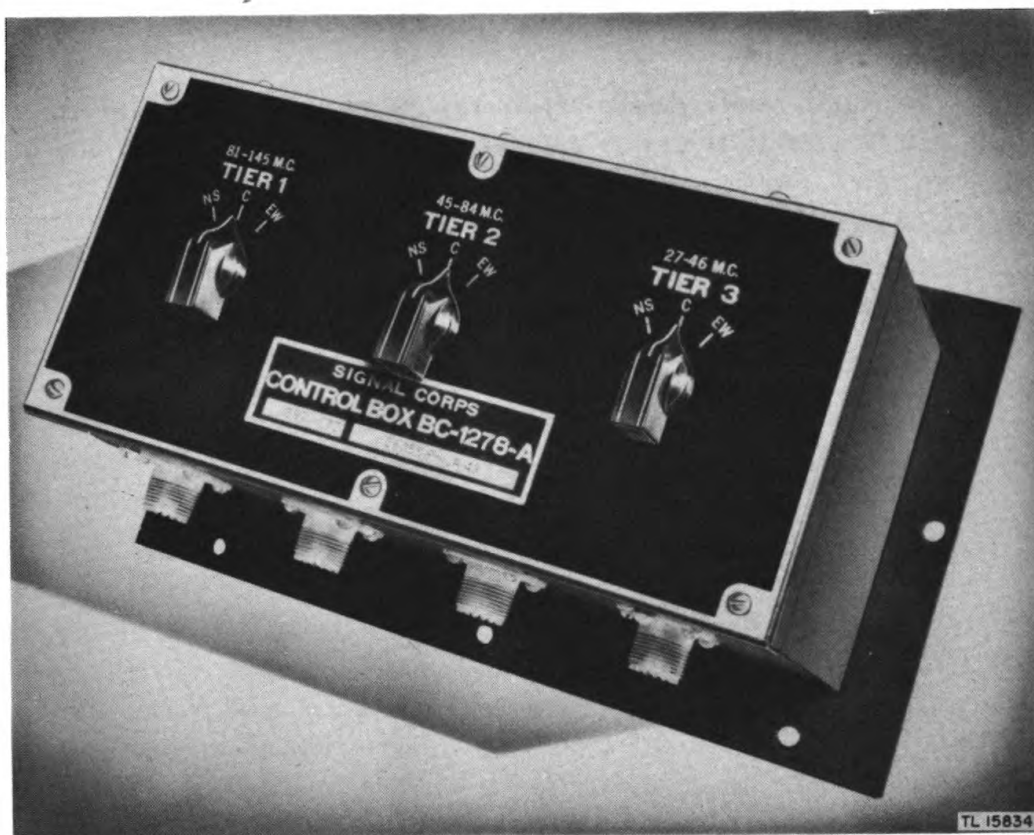

Figure 9. Control Box BC-1278-A, showing switch positions.
9. OPERATION OF CONTROL BOX BC-1278-A (fig. 9).